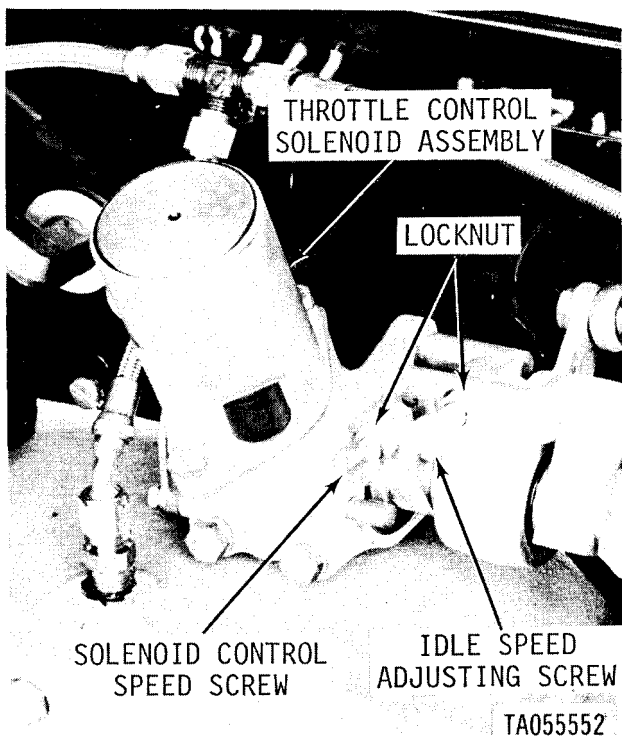

Figure 2-148.7. Idle and solenoid control speed screws, model AVDS-1790-2DR.
(1) Start and operate engine until normal operating speed is reached.
(2) With engine running, loosen locknut on idle speed adjusting screw (fig. 2-148.7).
(3) Turn idle speed adjusting screw until 700 rpm is obtained. Turn screw clockwise to increase speed, and counterclockwise to decrease speed. Tighten locknut.
(1) With engine running at normal operating temperature, loosen locknut on solenoid control speed screw (fig. 2-148.7), Activate power take-off and have an assistant increase engine speed to 1800 rpm.
(2) If 1800 rpm cannot be obtained when speed control screw engages stop, turn screw counterclockwise to increase engine rpm. If screw has not engaged stop when 1800 rpm are obtained, turn screw clockwise until screw engages stop.
(3) Allow engine to return to idle speed. Increase engine speed to 1800 rpm and recheck adjustment. If adjustment is not correct, repeat step (2) above.
(4) Tighten locknut after correct rpm (1800 rpm no load) is obtained. Stop engine.